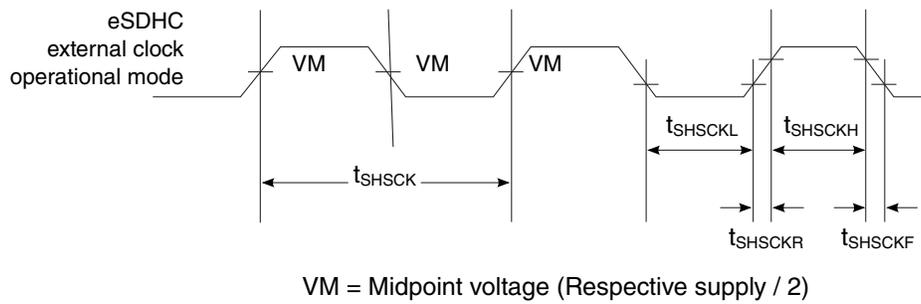

Figure 14. eSDHC clock input timing diagram
1. The symbols used for timing specifications herein follow the pattern of t_{(first two letters of functional block)(signal)(state) (reference)(state)} for inputs and t_{(first two letters of functional block)(reference)(state)(signal)(state)} for outputs. For example, t_{SHKHOX} symbolizes eSDHC highspeed mode device timing (SH) clock reference (K) going to the high (H) state, with respect to the output (O) reaching the invalid state (X) or output hold time. Note that in general, the clock reference symbol is based on five letters representing the clock of a particular functional. For rise and fall times, the latter convention is used with the appropriate letter: R (R for rise) or F (F for fall).
5. See Figure 14. on page 85.